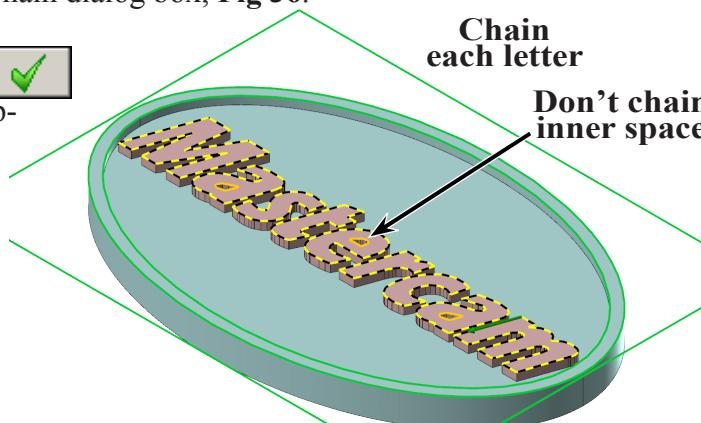

Fig. 36
Step 7. Click **each letters** to Chain letters (no inner space) and click OK  in Chain dialog box, Fig 36.